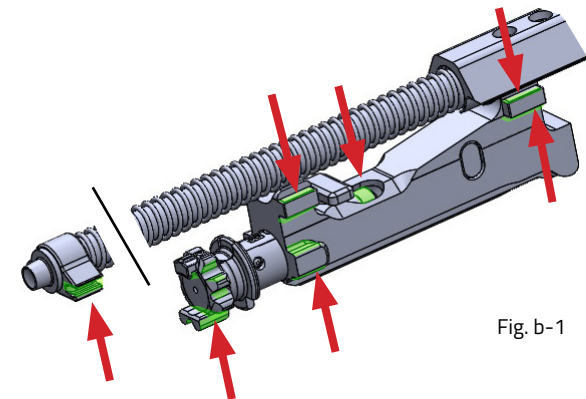

Fig. b-1
5. Apply CLP to the the collar, bolt lugs, the extractor cutout, bolt guide pin, bottom bolt carrier guides, and spring guide. (Fig. b-1)